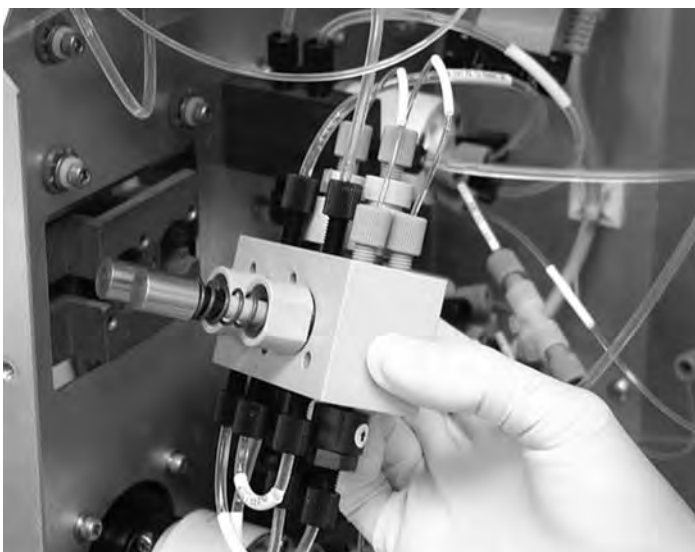

Fig. 13.8. Pulling the pump head away from the drive assembly.
6. Pull the pump head away gently (Figure 13.8); the pump wash tubing will still be connected.